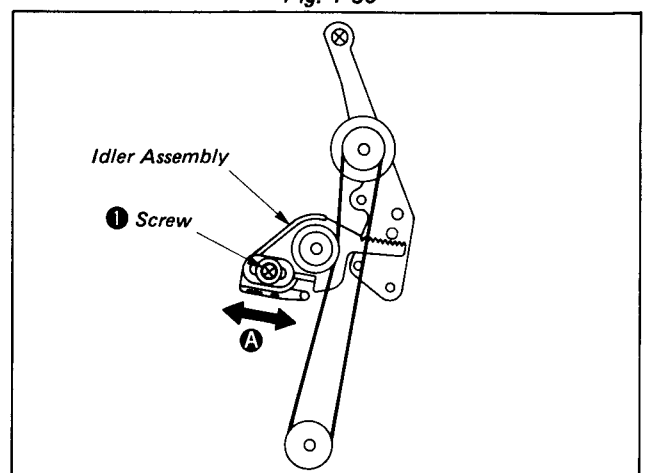

Fig. 1-61
- i) Loosen the screw ①, slide the idler assembly as shown by the arrow A, and fix it by tightening the screw ①. (See Fig. 1-61.)
- 12) Remount the driving gear (B) assembly and the tension spring of the pinch press arm assembly.